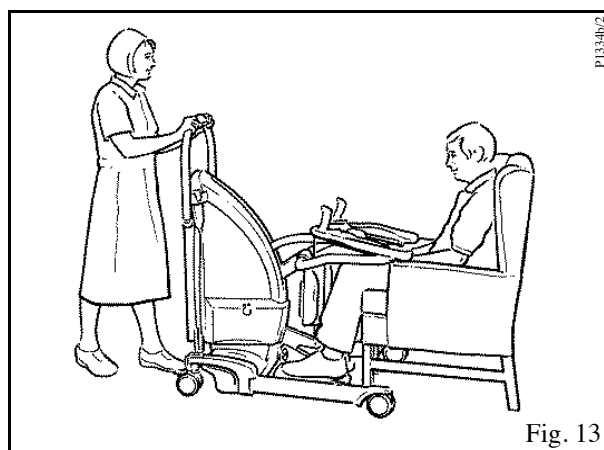

Fig. 13
When the patient is ready, give assistance or allow the patient to place his/her feet on the foot support, pushing the *Sara Plus* towards the patient a little to achieve this easily. (See Fig. 13).
*As stated previously, the standing sling may be applied before the Sara Plus is brought into position as shown in figure 13.*